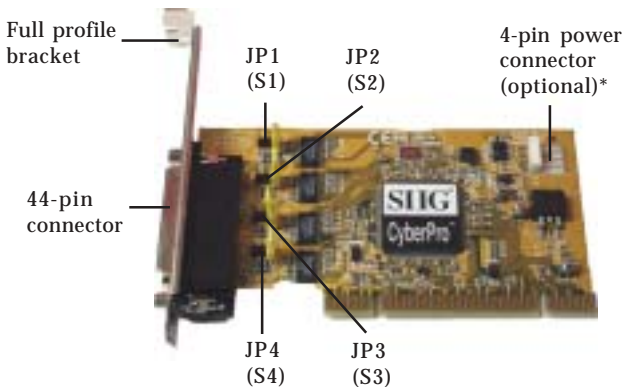

Figure 1. Layout
5. Change **JP1-JP4** jumper settings to the desired voltage only if your serial device(s) needs additional power from the serial port. However, most serial devices do not require additional power. For more information, see **Figure 1** on page 2. Skip this step if power is not required.